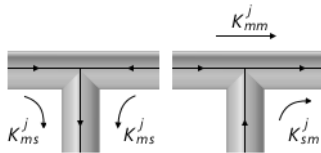
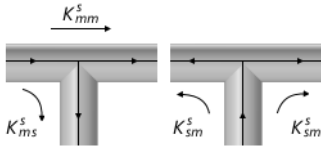

Figure 2-2: T-junction, converging flow.
Figure 2-3: T-junction, diverging flow.
- The **Loss coefficients, extended model** option is available for the Pipe Flow interface. This option allows you to specify the loss coefficient in more details and account for the flow directions. Enter values or expressions for the six dimensionless loss coefficients. See Figure 2-2-Figure 2-3.